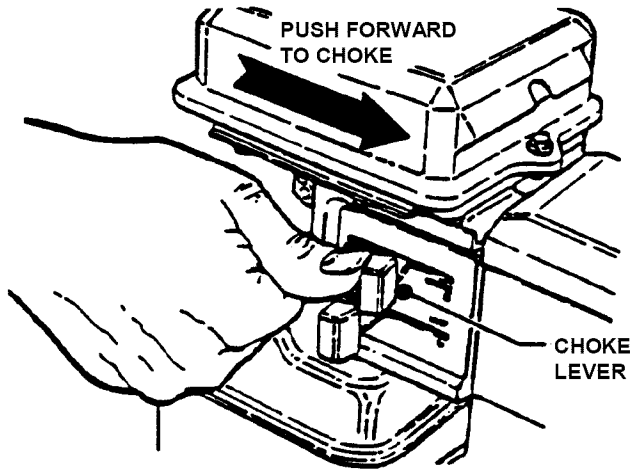

FIGURE 5
Step 2: For cold starts, move the CHOKE CONTROL on the engine forward into CHOKE position. See Figure 5.